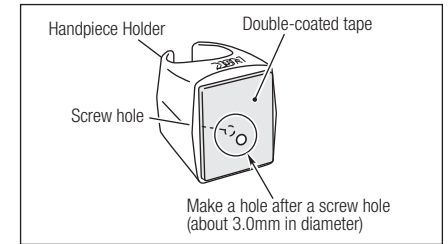

Fig. 10
1. Make a 3 mm hole in the Double-coated tape behind the screw hole in handpiece holder. (Fig. 10)